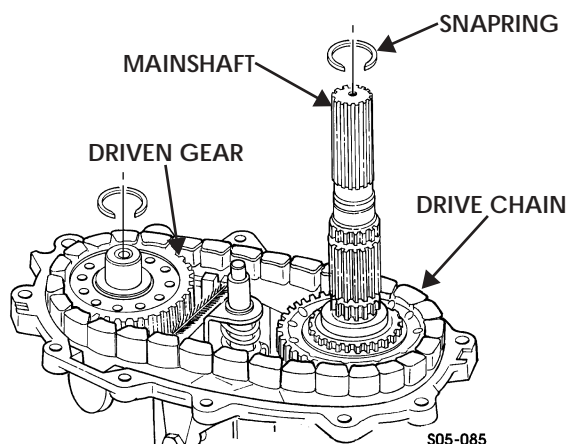

Figure 5-138: Mainshaft and Output Shaft Snaprings
22. Remove snapping from front output shaft. (Figure 5-138)